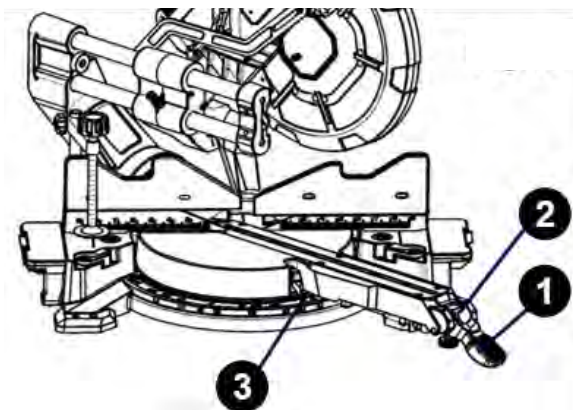

Fig. 12: Setting the miter angle
- Step 1: To make a miter cut, unlock the table by lifting the mitre locking handle (item 1, fig. 12).
- Step 2: Press the miter lock knob (pos. 2, fig. 12) and turn the table to the right or left using the miter handle.
- Step 3: When the table is in the desired position position indicated on the miter scale (Item 3, Fig. 12), push the locking handle down to lock the saw table. The table is now locked at the desired angle.